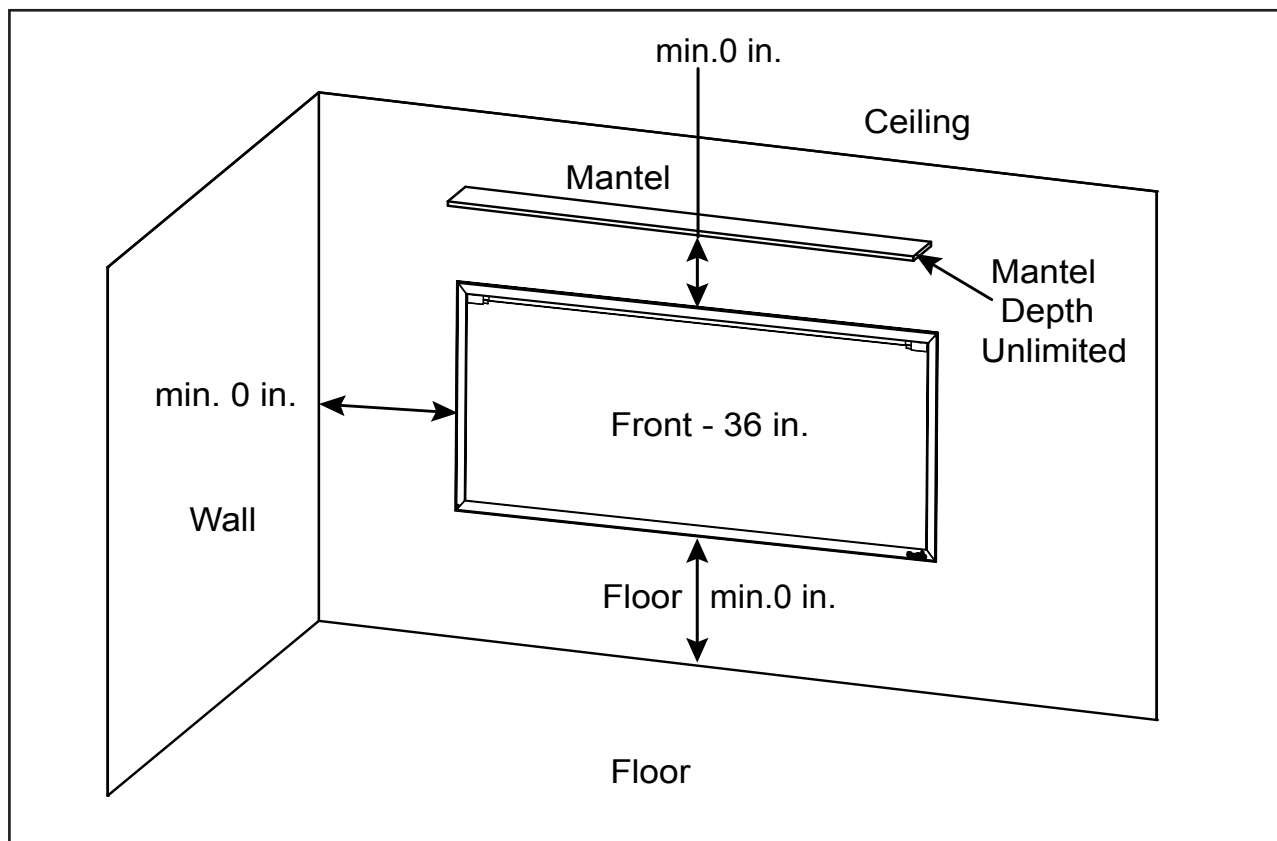

Figure 3.2 Location and Clearances Requirements
- See Figure 3.2 to determine location of appliance installation.
See Figure 3.2.